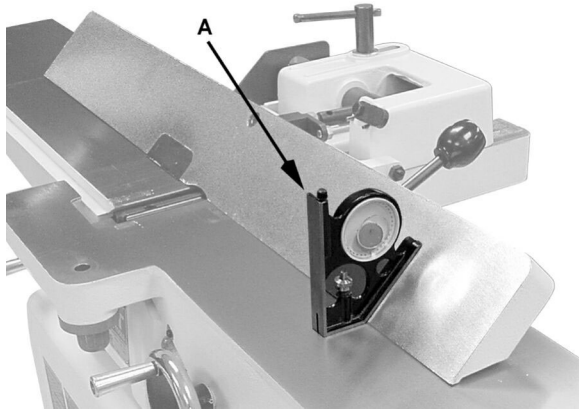

Figure 8-6
1. Loosen the lock handle (A). Move the stop plate (D) out of the way and position the fence at the 135° angle. Make sure the fence sits against the stop bolt. (E).
2. Tighten the lock handle (A).
3. Place an angle measuring device on the table and against the fence to confirm a 135° setting (A. Fig. 8-6).
4. To adjust, loosen the lock nut (F), turn the stop bolt (E) until a 135° angle is obtained.
5. Tighten the lock nut (F).